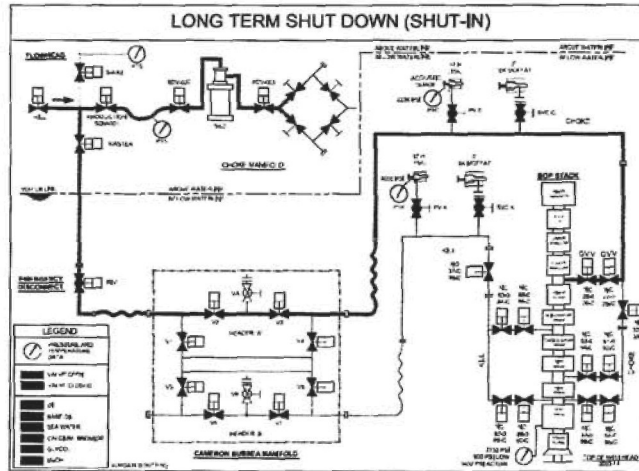

Figure 10: Long Term Shut-down Diagram
Note: See to Figure 10 to reference to Long Term Shut Down.
- i. Close the Outer Gas Vent Valve on the subsea BOP stack (see Figure 10).
- j. Close the Inner Gas Vent Valve on the subsea BOP stack (see Figure 10).